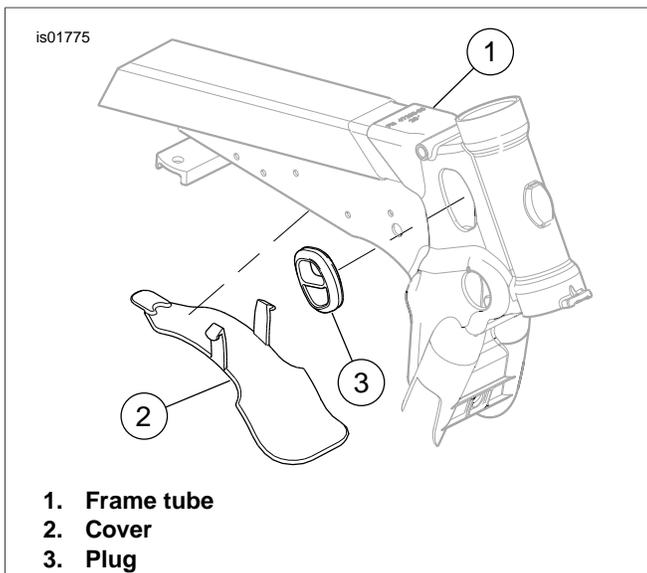

Figure 19. Dyna Top Frame Tube (2006-Later)
1. See Figure 19. Remove cover under top frame tube, then pull front turn signal connectors (3-place multilock) out from opening under tube.